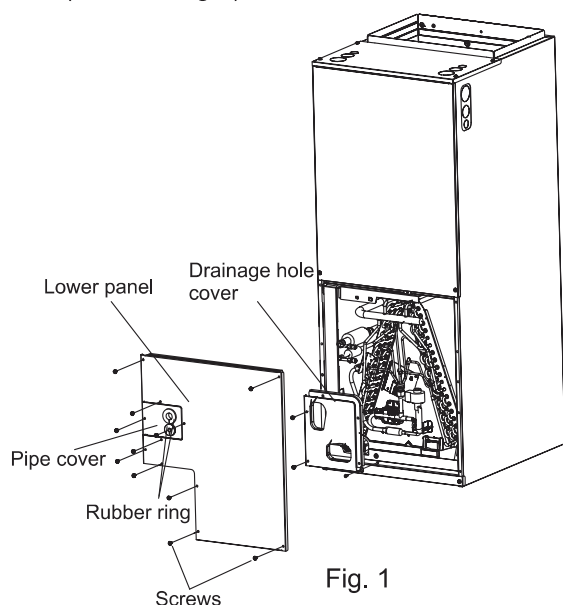

Fig. 1
- (1) Remove the lower panel and pipe cover (including two rubber ring), then remove the drainage hole cover. Unscrew screws. (Refer to Fig.1)